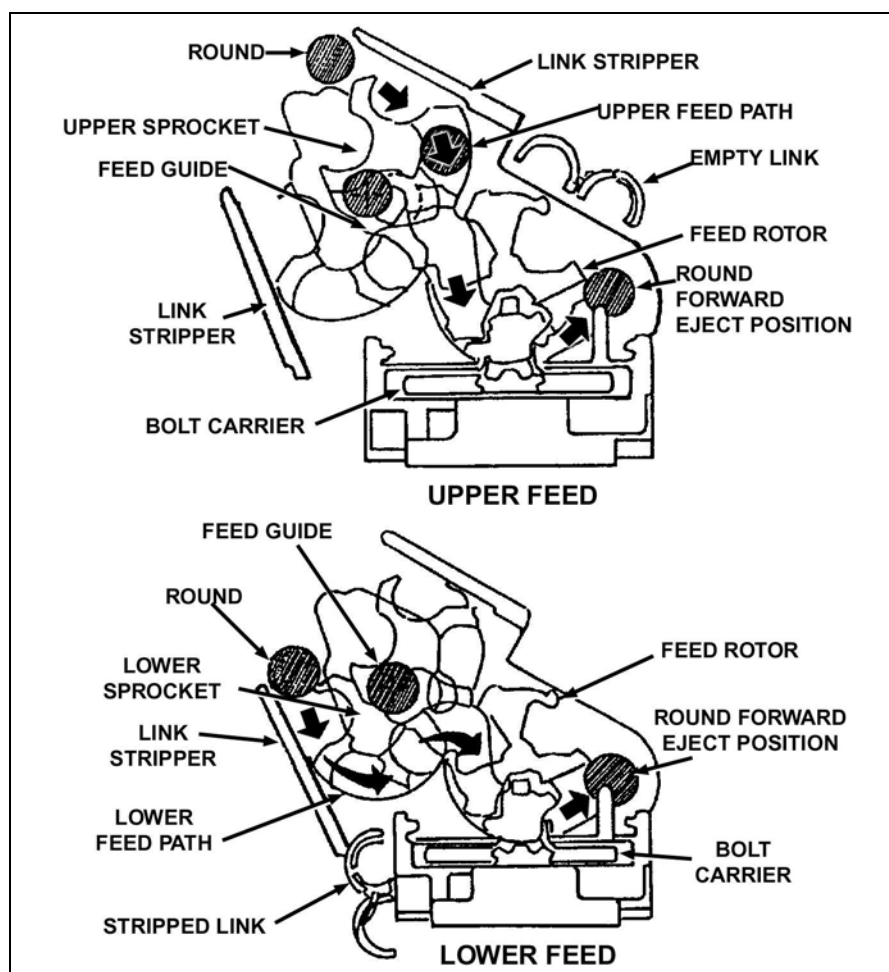

Figure 2-2. Dual-feed system.
a. **Dual-Feed System.** A dual-feed system uses sprockets and extractor grooves to control rounds (Figure 2-2, page 2-2). A system of clutches allows either sprocket to engage and feed either an AP or HE cartridge. One ammunition box holds 70 rounds, and the other holds 230 rounds. Each box can hold either AP- or HE-type ammunition. A single 1.5-horsepower DC motor externally powers the 25-mm. The enhanced gun uses a 1.0-horsepower DC motor. For all 25-mm guns, unit maintenance replaces inoperable 1.5-horsepower DC motors with the newer 1.0-horsepower DC motors. The gunner can choose from three rates of fire: